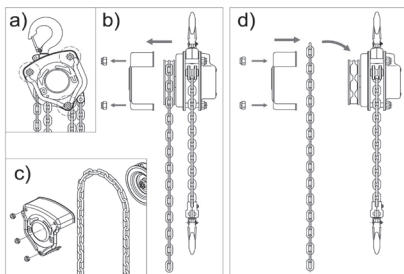

Fig. 4
- The hoist, including lifting chain and hooks, must not be disassembled or repaired by unauthorized people, with the exception of the removal of the protective cover of the hand chain, which is necessary for its replacement by the user. Any unauthorized disassembly or repair of the hoist will release Beta Utensili of any resulting responsibility. Note: The procedure for the replacement of the hand chain is shown in figure 4.